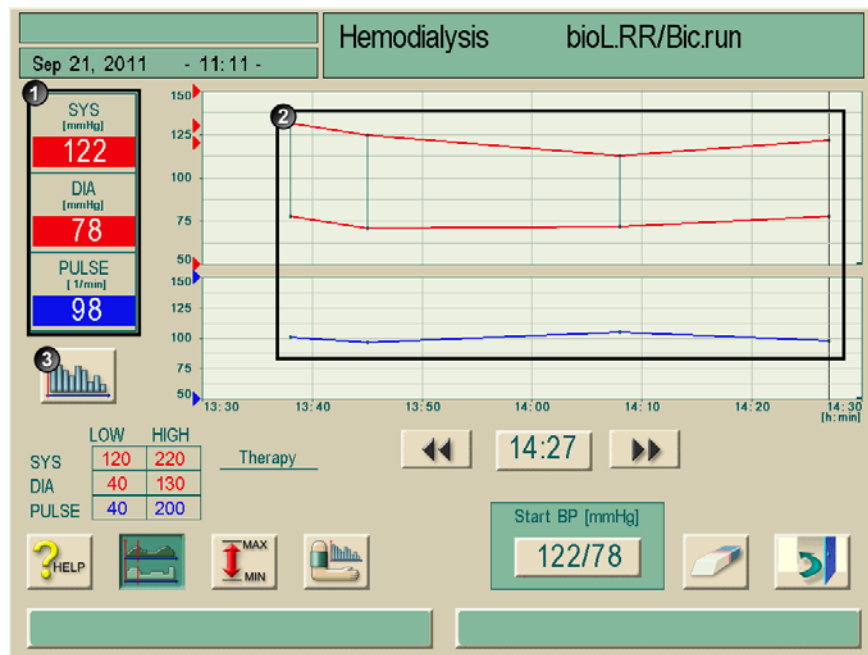

Fig. 10-12 Graphical representation of blood pressure and pulse
In haemodialysis (HD) mode the user gets a "prognosis" of the estimated Kt/V value at the end of therapy. It is displayed numerically (Fig. 10-12, 1) and graphically (Fig. 10-12, 2). The blue actual progress line will be extended from the actual therapy status in order to predict the therapy progress.